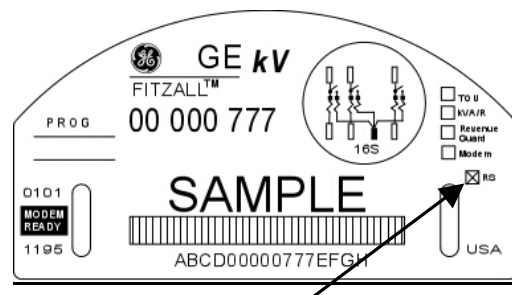

Figure 9 : Check "RS" box
7. On the right side of the nameplate place an "X" in the box marked "RS" and replace the cover. See Figure 9.